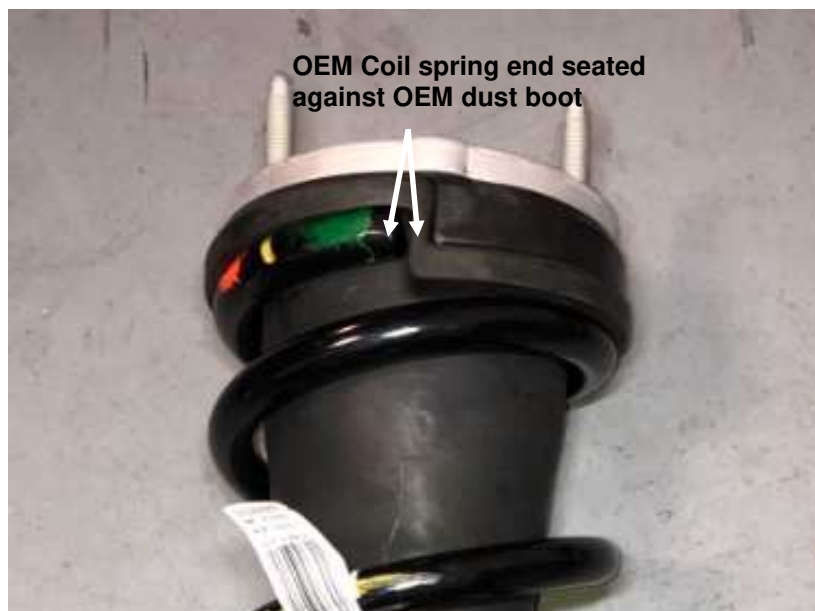

Figure 4: OEM Coil spring clocking
- J. Rotate the coil spring until the end of the top coil is seated into the OEM dust boot as shown in Figure 4.